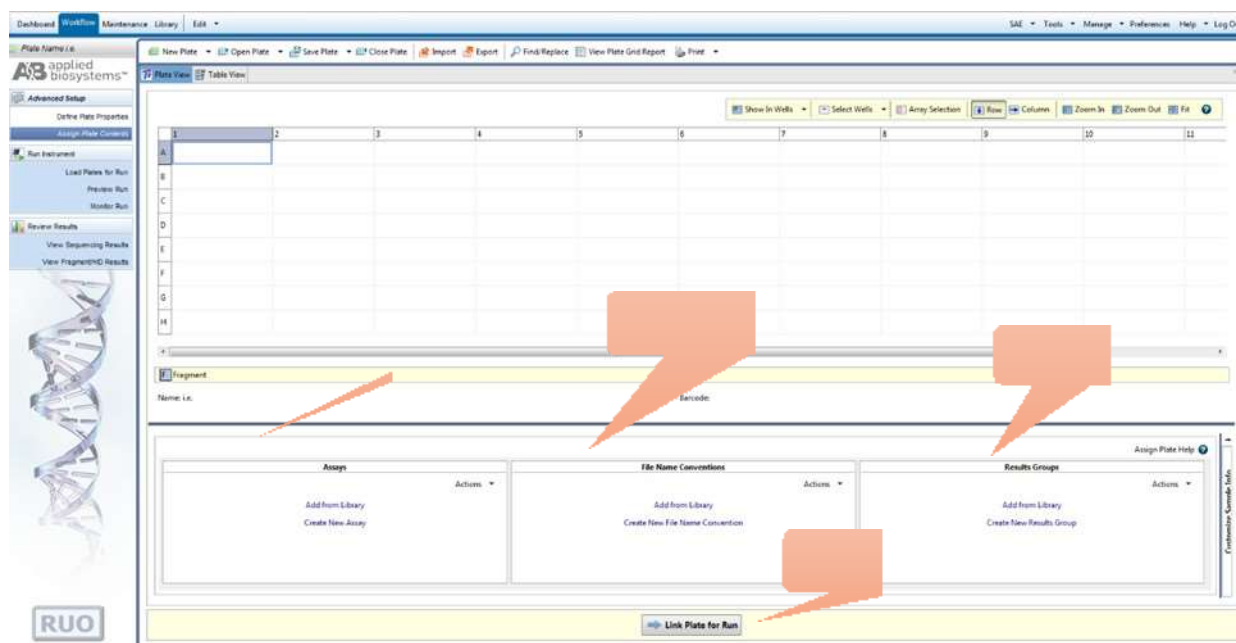

Figure 11. Screenshot for the “Assign Plate Contents” window on Applied Biosystems 3500 Data Collection software
- In the *Assign Plate Window* (Figure 11), in the bottom left corner, in a box “Assay”, click *Add from Library* option to select the Assay created in Step 3.1.4. Click on the Add to Plate button and close the window.